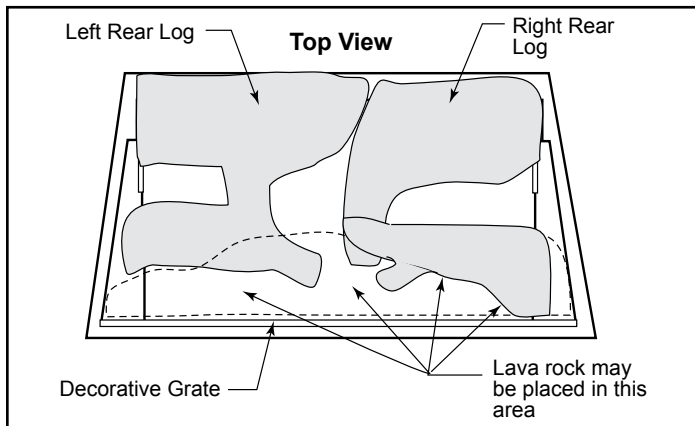

Fig. 19 - Lava rock placement.
- Loosely sprinkle the lava rocks directly on top of the burner just behind decorative grate. (Fig. 19) Use the lava rock to cover brackets on the burner. Do not place lava rocks toward back of burner. The lava rock is shipped inside the bag assembly.